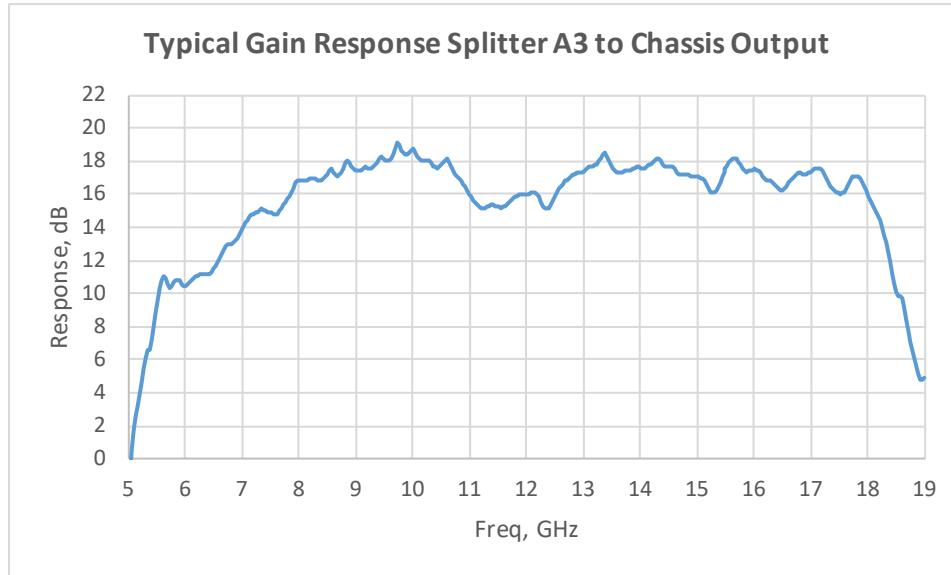

Figure 4-9. Typical Response: Input A3 – Splitter to RF Output Gain
2. Remove the coaxial cable Shaper A1A3 and the A1A2 Driver Amp. The typical response from the input of the A1A2 Driver Amp to the RF output connector on the unit's front panel is shown in Figure 4-9. If response is abnormal, perform the following tests.